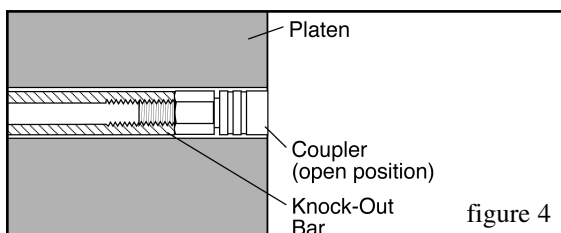

figure 4
2. Insert the extension bar and coupler through the platen and into the press ejector plate. For presses with non-adjustable ejector home position, install the coupler even with the platen surface. See figure 4.